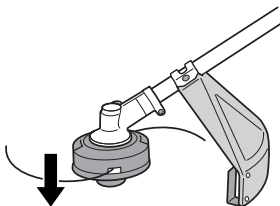

Fig. 10
- Press the stopper pin (15) of the gear case in order to lock the cutter holder.
- Set the engine speed as low as possible and tap the head on the ground. The nylon line will be drawn out about 1-3/16" (3 cm) with each tap. (Fig. 10)